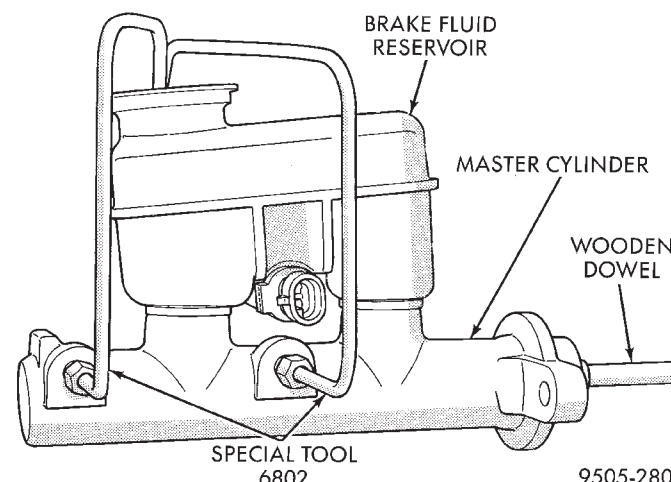

Fig. 90 Bleeding Master Cylinder
(2) Fill brake fluid reservoir with brake fluid conforming to DOT 3 specifications such as Mopar or an Equivalent.
(3) Using a wooden dowel per (Fig. 90), depress push rod slowly, and then allow pistons to return to released position. Continue to repeat this step several times after no more air bubbles are expelled from bleed tubes to ensure all air is bled from master cylinder.